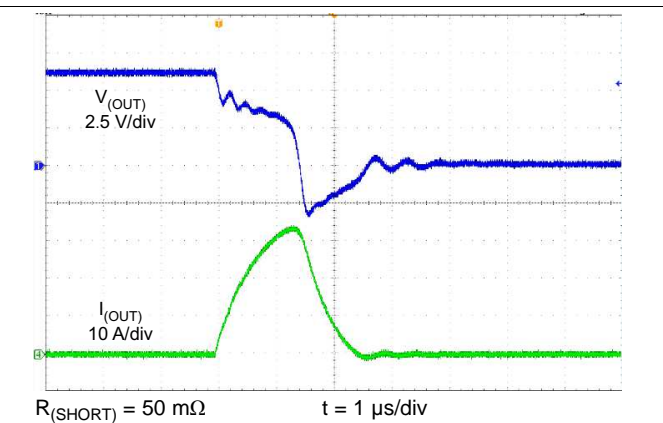

Figure 25. Hot-Short Response Time
| $t_{(IOS)}$            | OUT short-circuit response time (1)  | $V_{(IN)} = 5\text{ V}$ , $R_{(SHORT)} = 50\text{ m}\Omega$ (see Figure 25)  |     | 2    |      | $\mu\text{s}$ |